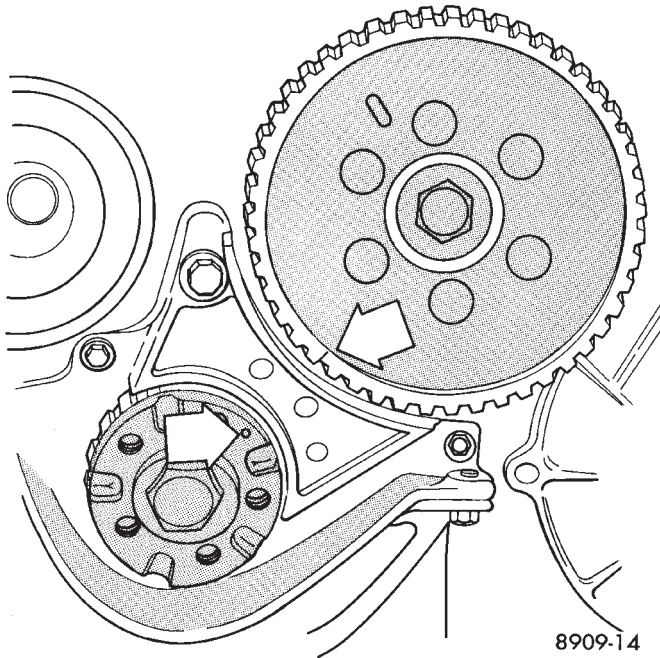

Fig. 11 Crankshaft and Intermediate Shaft Timing
- (1) Remove all spark plugs. Turn crankshaft and intermediate shaft until markings on sprockets are in line, see arrows (Fig. 11).